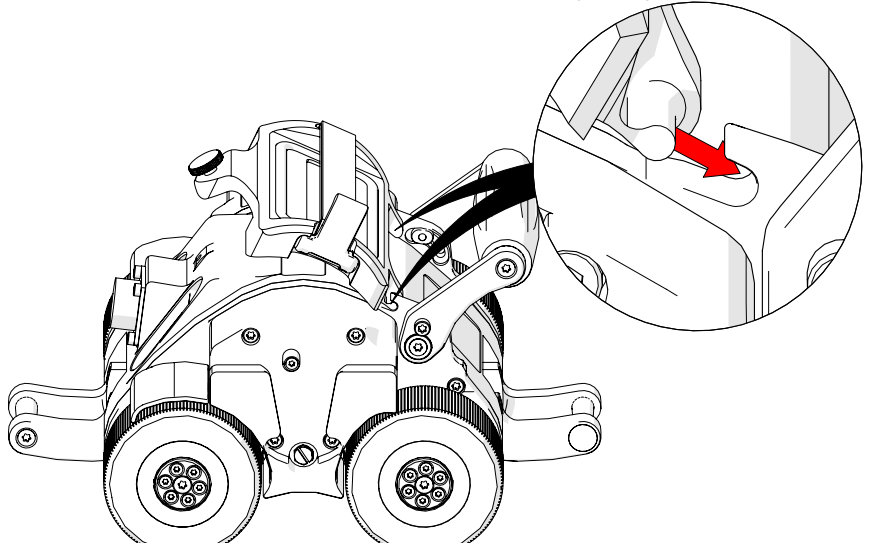

Fig. 81 - Fit backpack into notches
2. Place the front of the backpack into the notches found near the base of the handle (Fig. 81).